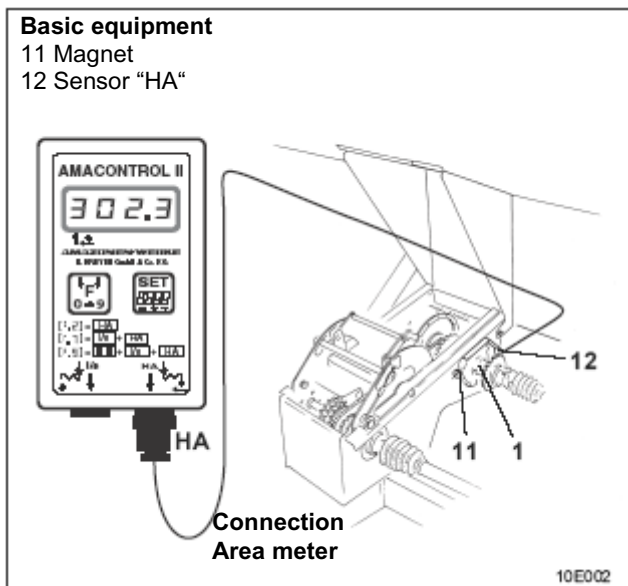

Fig. 2.3
Fig. 2.3 shows the attachment points for the sensors and magnets on the gearbox input shaft (1).